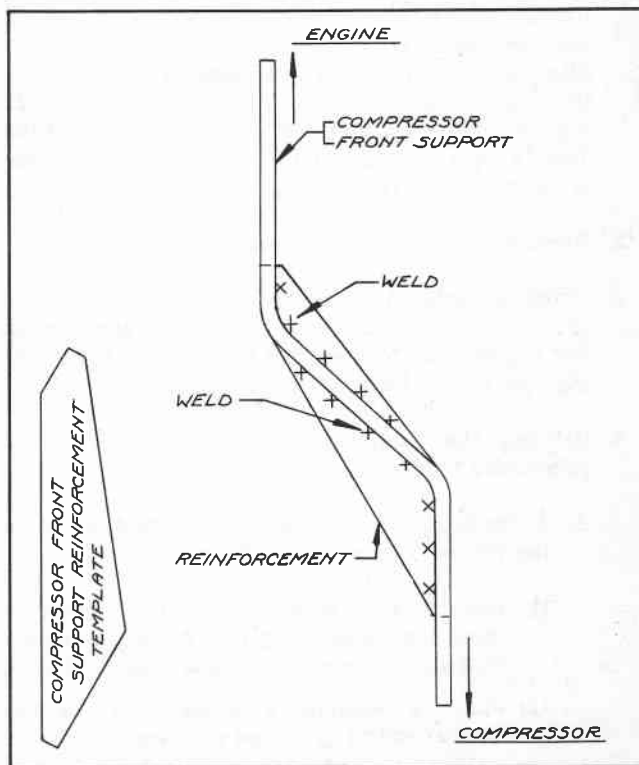

Fig. 2 Compressor Front Support Reinforcement
2. Reinforce the compressor front bracket as shown in Fig. 2, with metal that is 3/16" or 1/4" thick using the template shown in the lower left portion of this same figure.